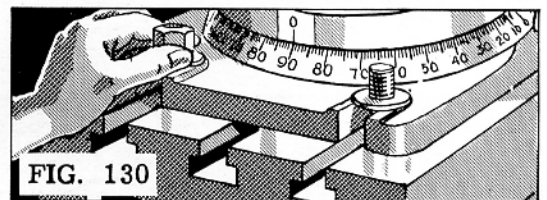

FIG. 130
5. Place a washer and a nut on each bolt and tighten the four nuts (Fig. 130). These will hold the base to the table.